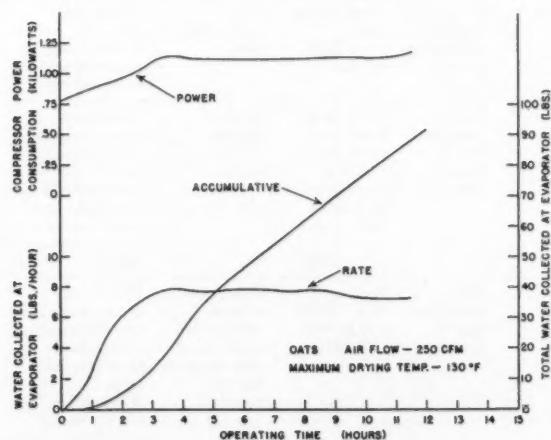

Fig. 12 Graph showing the rate of removing water from the grain during the test. At the top is the power in kilowatts being used by the compressor motor
**Rate of Removing Water**—Fig. 12 shows how the rate of removing water from the grain varied during the test period. The amount of water removed per hour increases rapidly until a certain rate is reached. This rate is determined by the air flow and drying air temperature. The apparently small amount of water removed the first hour is because the surfaces of the coils and collection pan and other parts of the system accumulate a certain amount of moisture before condensate appears at the drain. Not all of the water